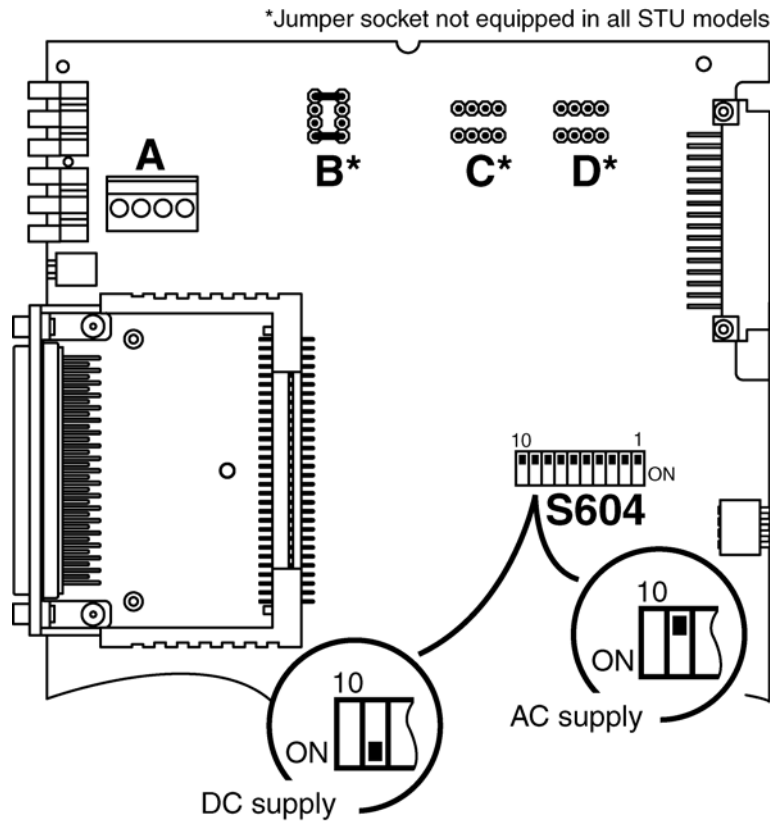

Fig. 2.54 Jumper settings: STU desktop unit local supply; AC or DC
6. Set the jumpers according to Chapter 2.7.4, Fig. 2.54 to local feeding (48 V_{DC}). If you are using a desktop model without RPS you must set jumper S604-9 on “ON”.